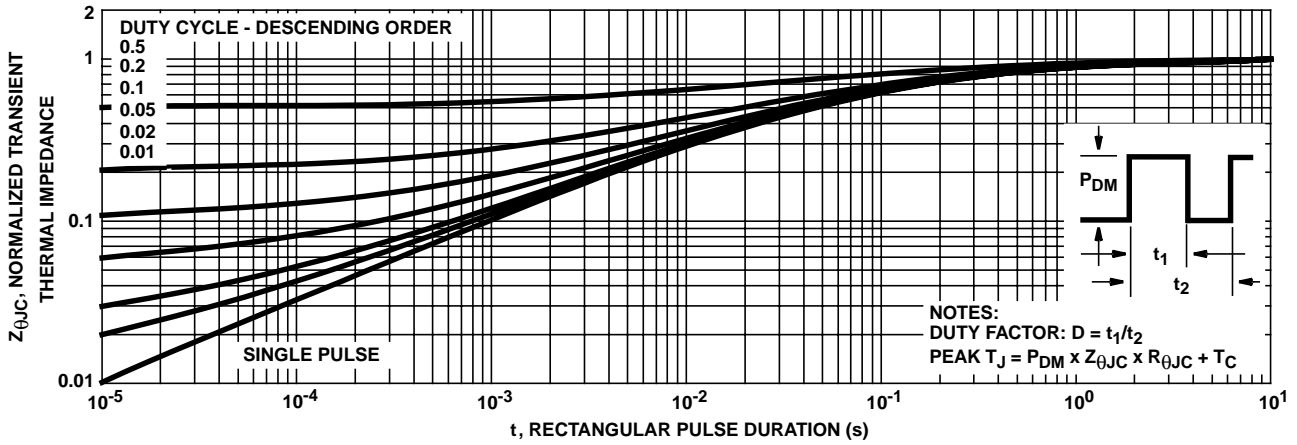

FIGURE 3. NORMALIZED MAXIMUM TRANSIENT THERMAL IMPEDANCE
3. Repetitive rating: pulse width is limited by maximum junction temperature. See Transient Thermal Temperature curve (Figure 3).